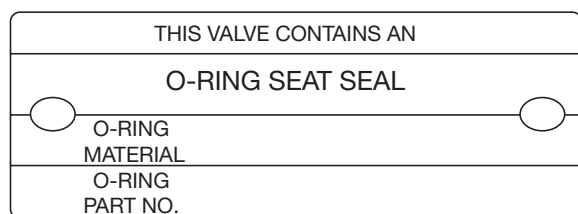

Figure 38: Valve O-Ring Tag
6. If the valve has an O-ring seat seal, the O-ring should be replaced. Please refer to its tag plate (see Figure 38) to determine O-ring material and “as-built” part number.